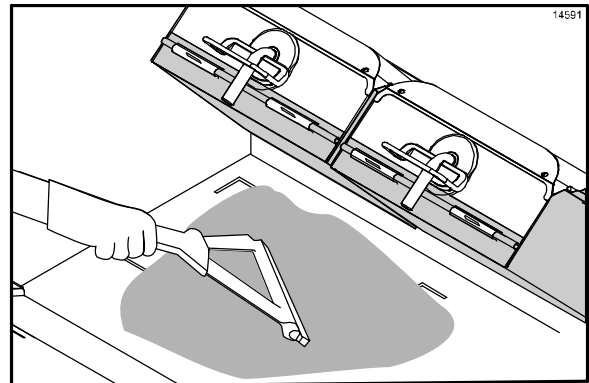

Figure 18
6. Using a clean squeegee, spread the flakes on the cooking zone. (See Figure 18.)